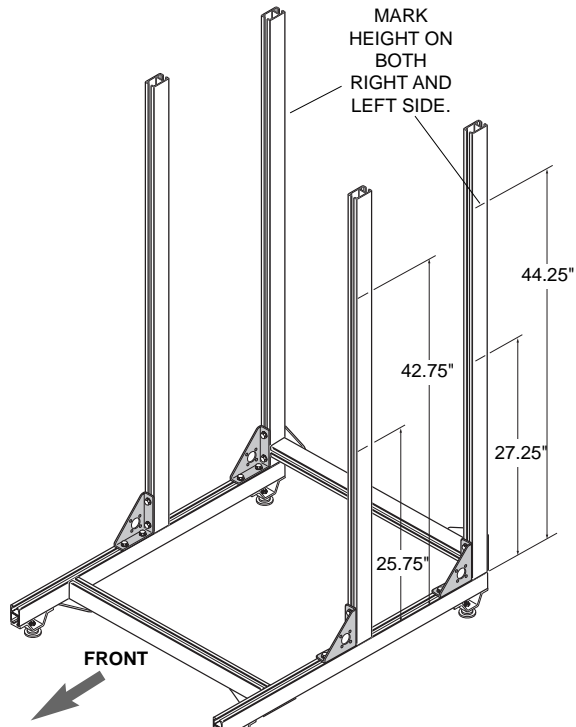

Figure 6.
6. Mark heights of four cross conveyor support cross rails on uprights of both side frames (Fig 6). Note that support rails on front uprights are installed lower than corresponding support rails on back uprights so that bins will roll to front on roller conveyors.